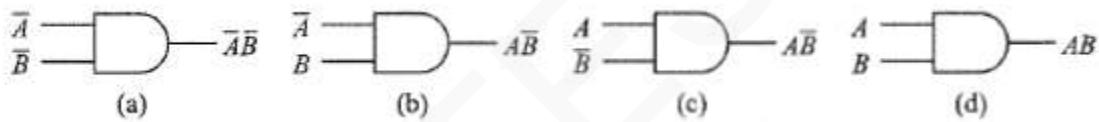

Figure 3.3: ANDing two variables and their complements
- The fundamental products are also called minterms (Figure: 3.3 & 3.4).